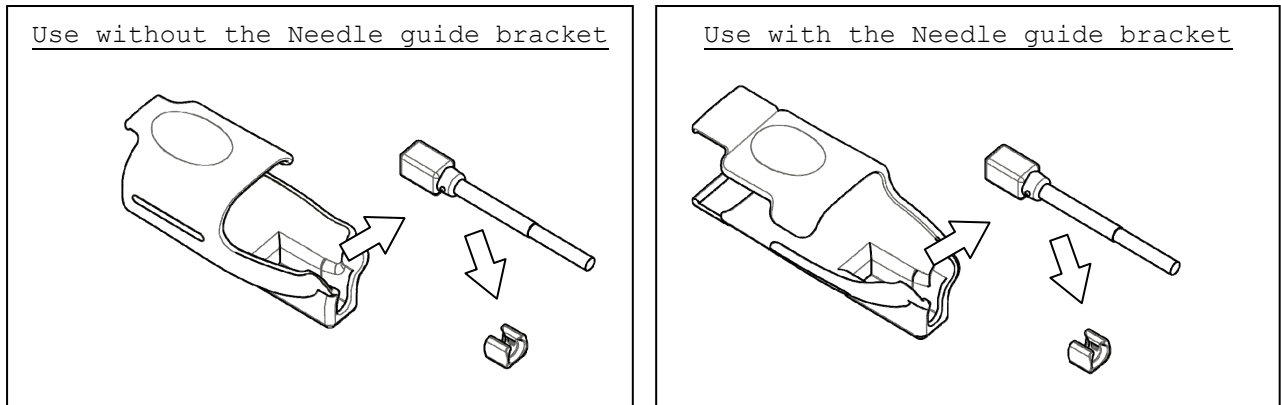

Fig.8 How to release the magnetic sensor
- b) Release the Magnetic sensor from the Magnetic sensor attachment as shown in Fig.8.